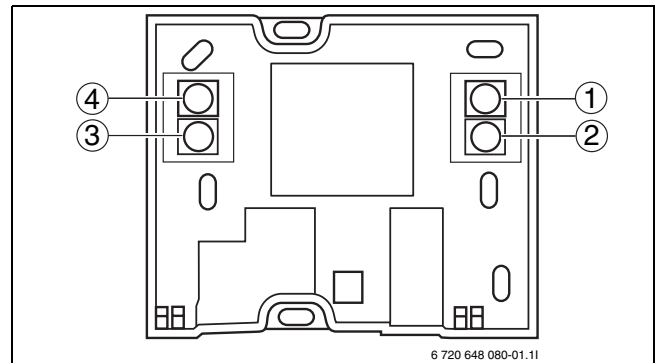

Fig. 18 Connections
- ▶ Check that the four cables are connected to the contactors as shown in (Fig 18).
- ▶ Connect the room temperature sensor to the terminals correctly. The +12V, CANH, CANL and GND terminals (Fig. 18) must be connected to the corresponding terminals on the circuit board (31-34 or 35-38). See External connections wiring diagram in the installation instructions for the heat pump. For a description of the CANbus LCD, see installation instructions for the heat pump.